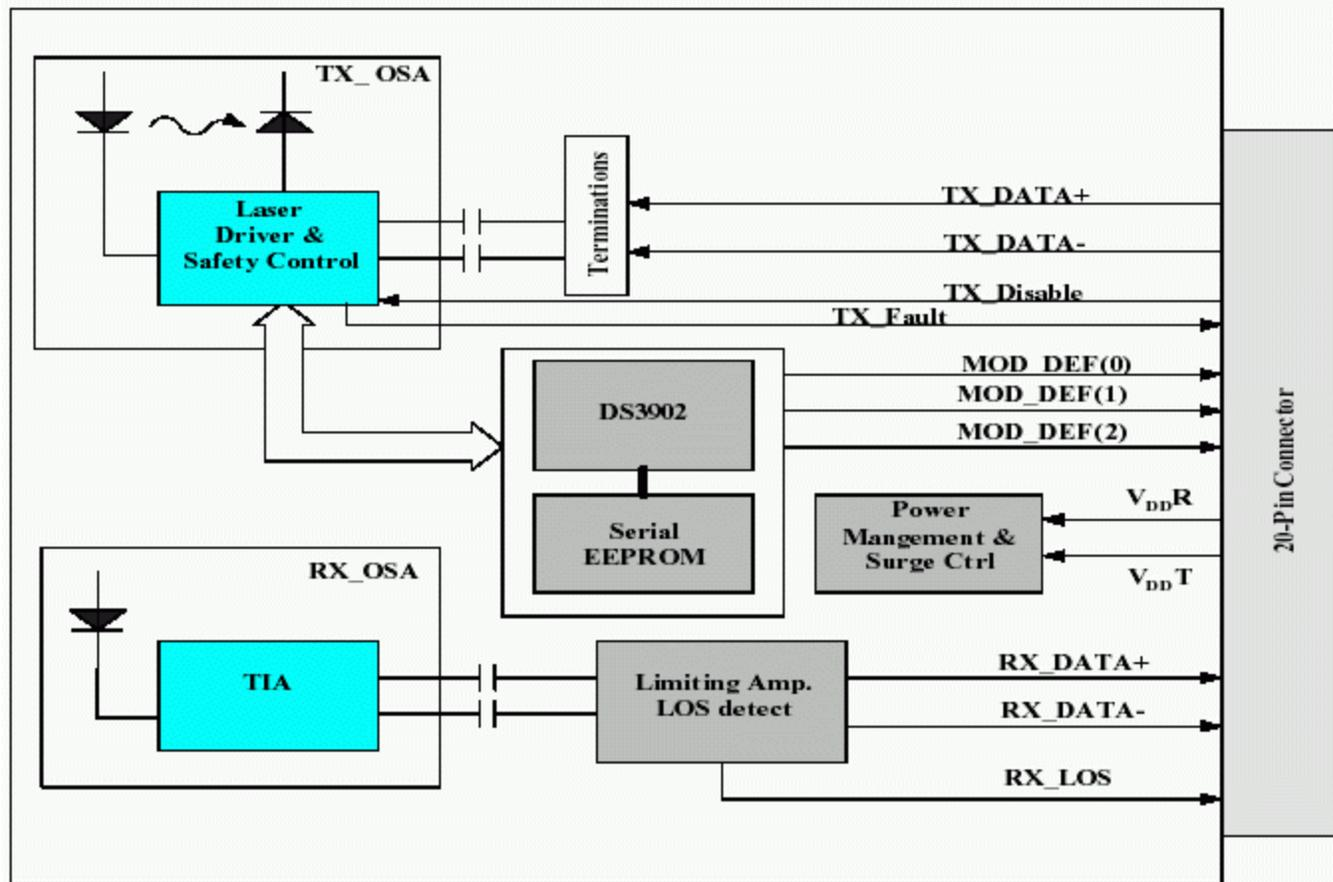

Figure 1. Typical optical module block diagram.
**Figure 1** depicts a typical low-cost optical module. The components comprising the module are: